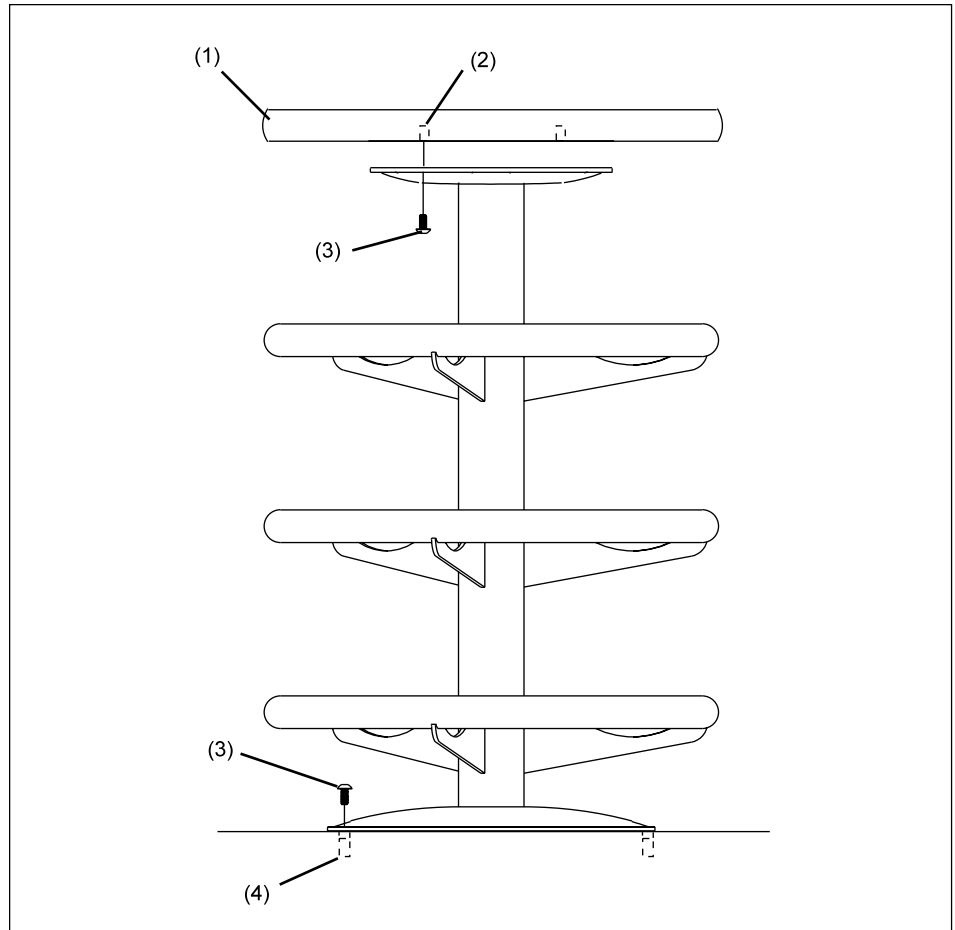

Figure 9. Align Round Table Top to Mounting Plate and Secure
1. Align the threaded insert in the table top with the holes in the table mounting plate. Secure the table top to the table mounting plate with four 3/8-16 x 3/4" button head hex socket cap screws. Refer *Figure 9*.
2. Secure the base of the ball rack pedestal to the floor with four 3/8-16 x 3/4" button head hex socket cap screws. Refer to *Figure 9*.